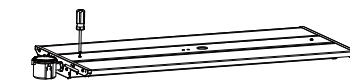

Figure 11
Step3.Put face cover back with scre w driver (Figure 11).